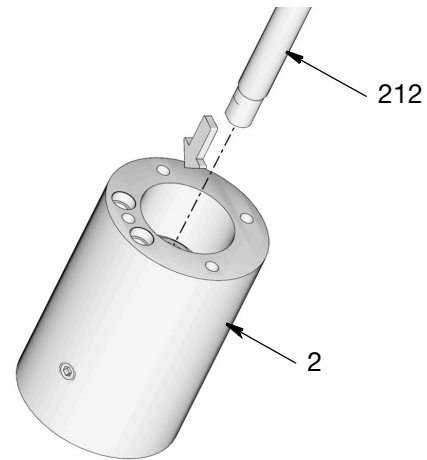

FIG. 37
4. Apply a thin layer of grease to the surface of the displacement rod (212). Slide the rod into the pump adapter (2) in the direction shown in FIG. 37 only.